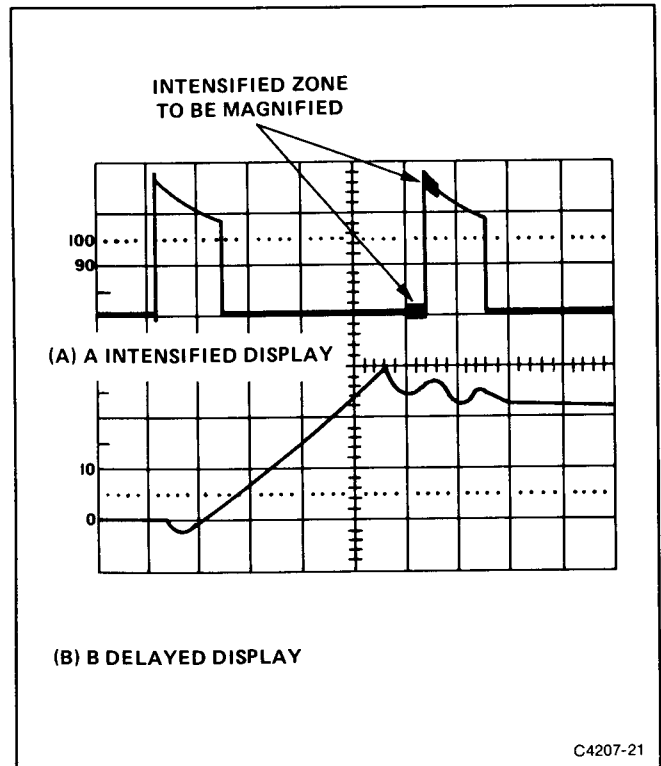

Figure 4-11. Delayed-sweep magnification.
6. Adjust the B DELAY TIME POSITION control to position the start of the intensified zone to the portion of the display to be magnified (see Figure 4-11).
7. Set the B SEC/DIV switch to a setting which intensifies the full portion of the A trace to be magnified. The intensified zone will be displayed as the B trace (see Figure 4-11). The B HORIZONTAL MODE may also be used to magnify the intensified portion of the A Sweep.